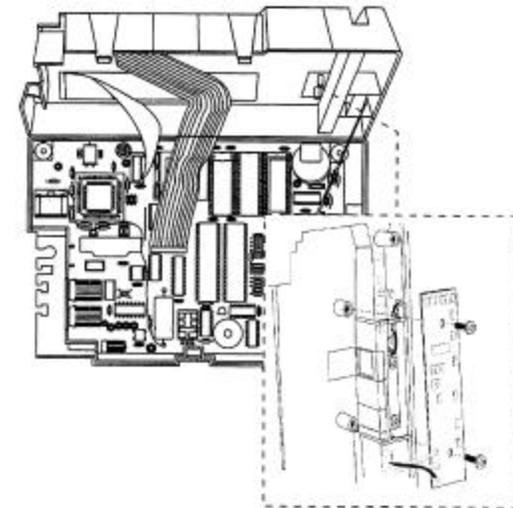

Figure 33: Internal Bar Code Reader Installation
3. Install the internal bar code reader assembly in the terminal. Refer to Figure 33.